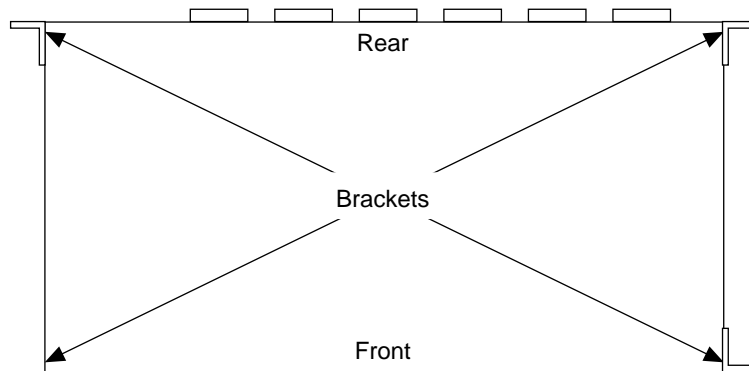

FIGURE 8-29. PACKIT/30 Mounting Brackets (Top View)
1. Attach the L-brackets to the PACKIT/6 as shown in Figure 8-29. Use the 6-32 x 1/4 inch pan screws and attach an L-bracket to each side of the PACKIT/30 near the front of the unit or the rear of the unit.
2. Attach the brackets to the PACKIT/30 as shown in Figure 8-29. Use the 6-32 x 1/4 inch pan screws and attach a bracket to each side of the PACKIT/30 near the rear of the PACKIT/30.